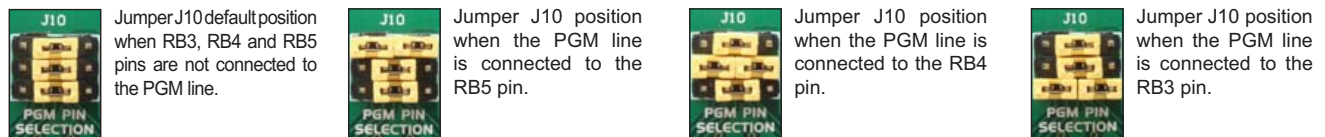

Figure 3-3: Various positions of jumper J10
All PIC microcontrollers have the Low Voltage programming mode enabled by default. In some rare cases, in order to enable the microcontroller to be programmed in the High Voltage programming mode, it is necessary to apply a logic zero (0) to the PGM pin, which prevents the microcontroller from entering the Low Voltage programming mode. Depending on the microcontroller in use, it is possible to select one of the following pins RB3, RB4 and RB5 to be used as the PGM pin. Jumper J10 is used as the PGM pin selector as shown in Figure 3-3.